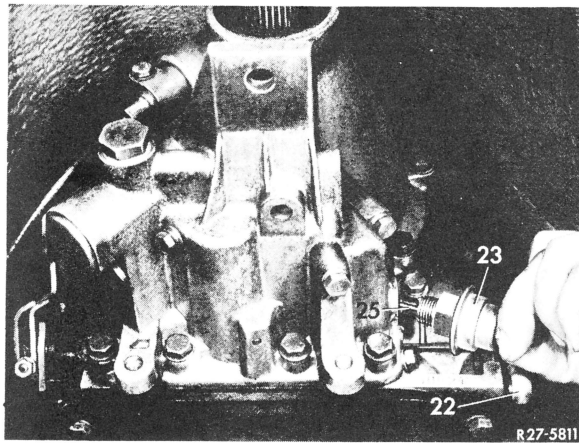

Fig. 4
21 Coat vacuum box (23) on threads with sealing compound and screw into rear transmission housing (Fig. 4).